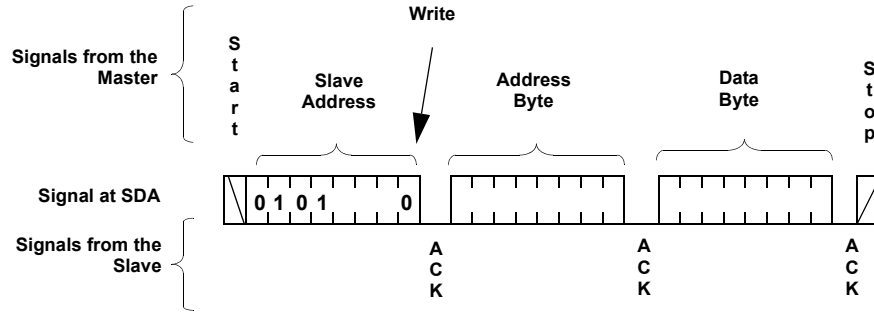
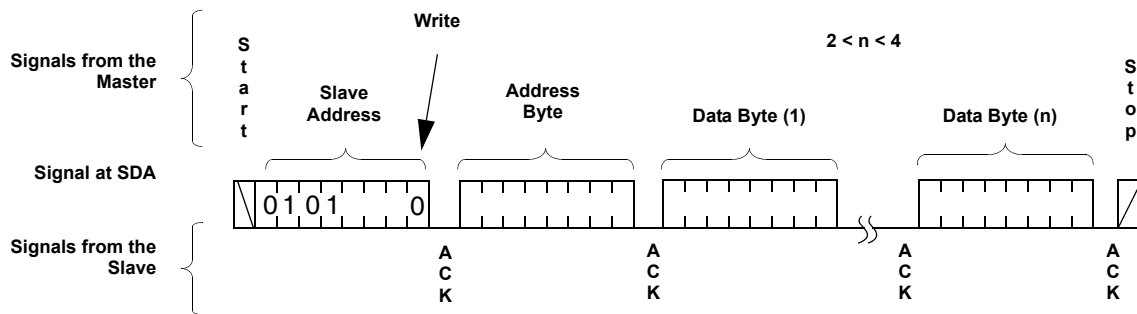

FIGURE 7. BYTE WRITE SEQUENCE
FIGURE 9. PAGE WRITE OPERATION
2. **Access the desired DR or WCR using a new write or read command** (see Figure 7 for write and Figure 9 for read.)
For any Byte Write operation, the X9455 requires the Slave Address byte, an Address Byte, and a Data Byte (See Figure 7). After each of them, the X9455 responds with an ACK. The master then terminates the transfer by generating a STOP condition. At this time, if the write operation is to a volatile register (WCR, or SR), the X9455 is ready for the next read or write operation. If the write operation is to a nonvolatile register (DR), and the \overline{WP} pin is high, the X9455 begins the internal write cycle to the nonvolatile memory. During the internal nonvolatile write cycle, the X9455 does not respond to any requests from the master. The SDA output is at high impedance.
As stated previously, the memory is organized as a single Status Register (SR), and four pages of four registers each. Each page contains one Data Register for each wiper. Normally a page write operation will be used to efficiently update all four Data Registers and WCR in a single Write command. Note the special sequence for writing to a page: First wiper 0A, then 1B, then 1A, then 0B as shown in Figure 9.
up to 4 bytes (See Figure 9). After the receipt of each byte, the X9455 responds with an ACK, and the internal WCR address is incremented by one. The page address remains constant. When the address reaches the end of the page, it “rolls over” and goes back to the first byte of the same page.